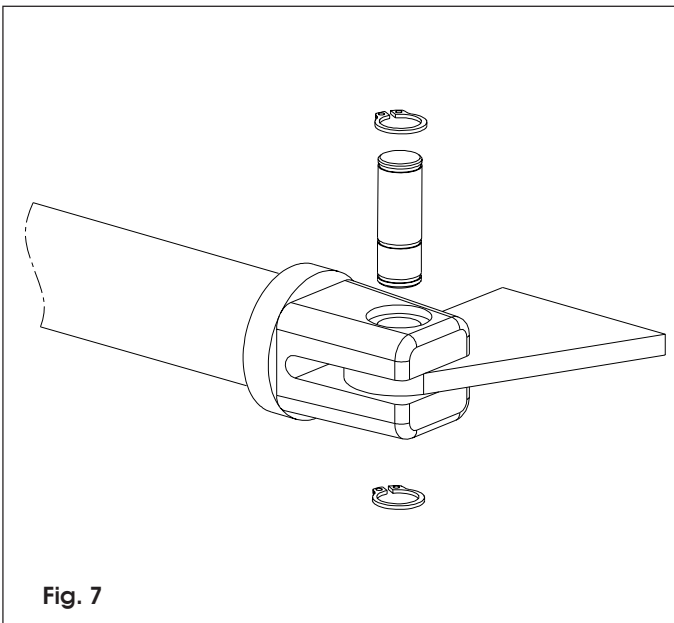

Fig. 7
- 5) Fit the front bracket on the stem as shown in Fig. 7.